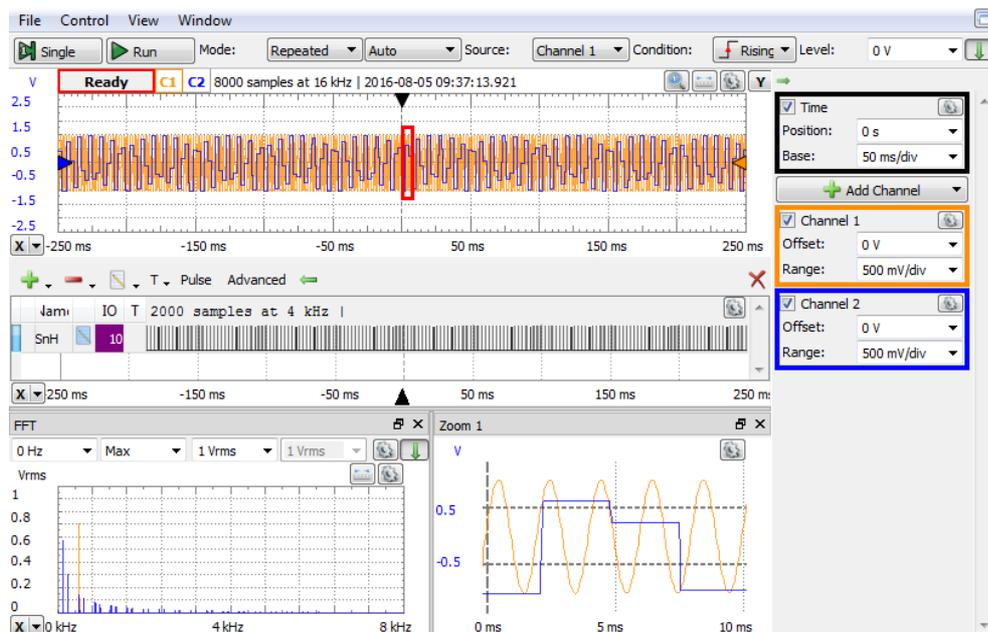

Figure 1.10 Under-sampling a sine signal
- o Set Time, Channels an Trigger as in Figure 1.10
- *Set Time, Channels a Trigger as in Figure 1.10*